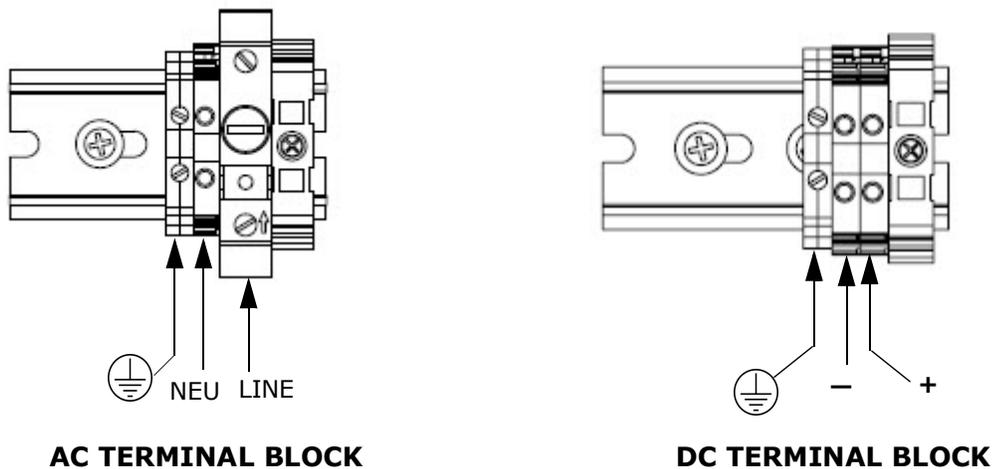

Figure 3-3 AC and DC connection terminal blocks in electronics enclosure
6. For AC systems, attach the neutral and hot wires to the power terminal block by connecting the neutral wire to the terminal marked "NEU" and the hot wire to the terminal marked "LINE" as shown in Figure 3-3.
For DC systems, connect the negative wire to the terminal marked "-" and the positive wire to the terminal marked "+" as shown in Figure 3-3.